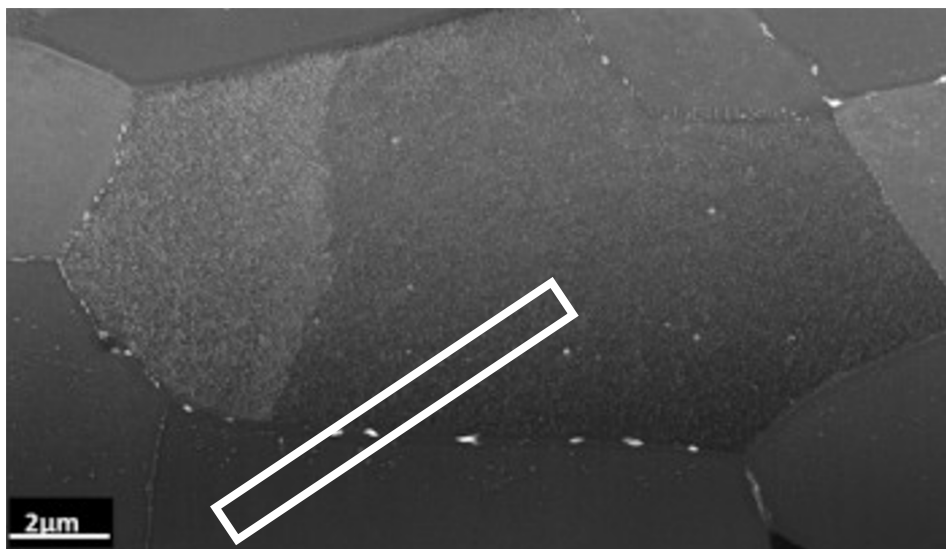

Figure Q2b SEM image of an annealed and polished aluminium sample. The selected area is marked by the rectangle.
- (b) Suggest with reasons a technique that can be used to prepare a sample for transmission electron microscopy (TEM) extracted from the area indicated in Figure Q2b. [8 marks]